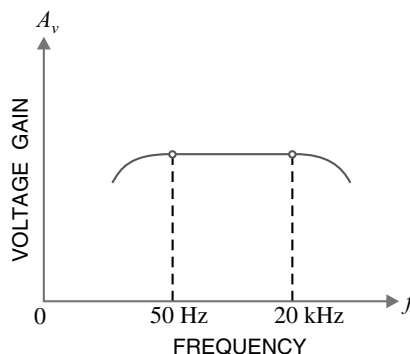

Fig. 9.19
**Frequency response.** Fig. 9.19 shows the frequency response of a typical  $RC$  coupled amplifier. It is clear that voltage gain drops off at low ( $< 50$  Hz) and high ( $> 20$  kHz) frequencies whereas it is uniform over *mid-frequency range* (50 Hz to 20 kHz). This behaviour of the amplifier is briefly explained below :